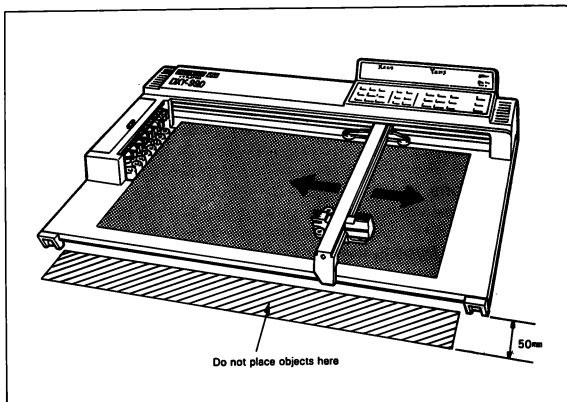

Fig. 2-4
- 2) Keep the shaded area in Fig.2-4 free from objects that the arm is able to move freely.